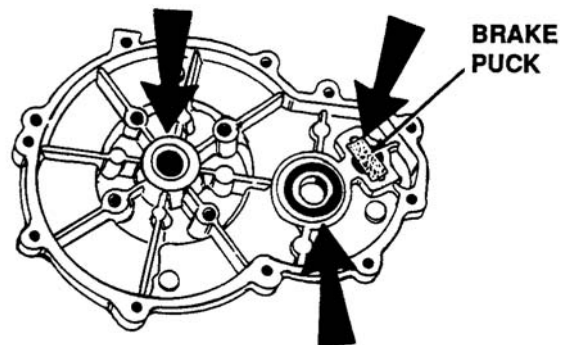

Figure 5-9. Location of Bearings and Brake Puck
10. Upon removal of housing halves, inspect the bearings in the housing half and remove the brake puck and inspect for wear. Replace if necessary. See Figure 5-9.